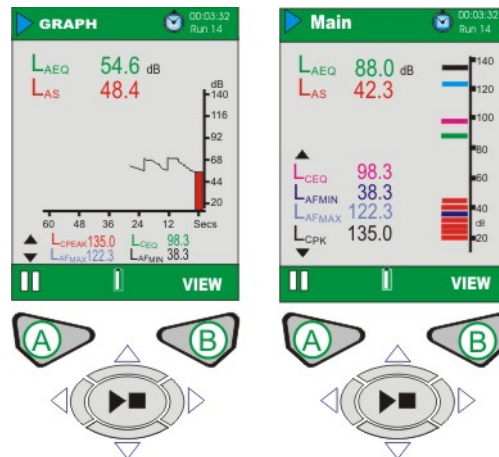

Figure 13 CEL-620A Run Screens
CEL-620A (Refer to Figure 13). The broadband values can be viewed as a bargraph on the Main screen, or as a graphical time history on the Graph screen. Pressing View key (B) toggles between Graph and Main screens.